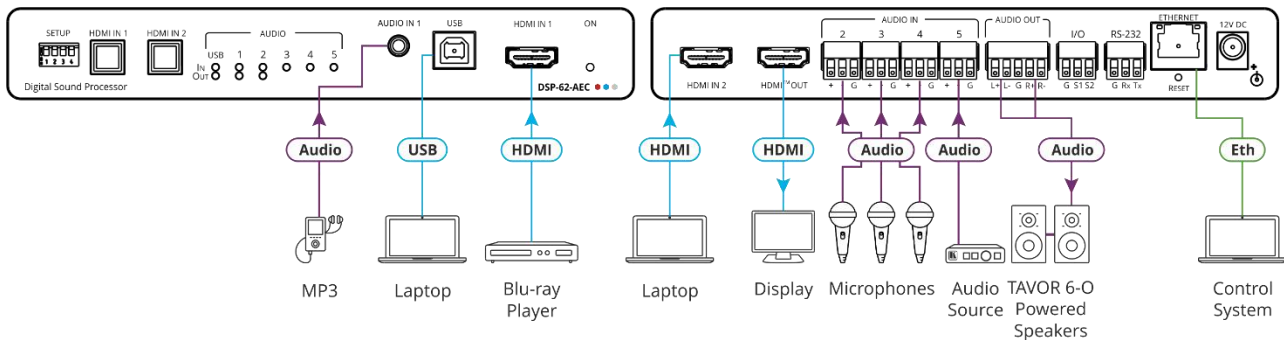

Figure 3: Connecting to the DSP-62-AEC
To connect DSP-62-AEC as illustrated in the example in Figure 3:
1. Connect an unbalanced stereo audio source (for example, an MP3 device) to the AUDIO IN 1 3.5mm mini jack (6).
2. Connect a USB source (for example, a laptop) to the USB Host port (7).
3. Connect an HDMI source (for example, a Blu-ray player) to the HDMI IN 1 connector (8).
4. Connect an HDMI source (for example, a laptop) to the HDMI IN 2 connector (10).
5. Connect up to 4 balanced mono audio sources (for example, microphones) to the AUDIO IN 3-pin terminal block connectors (12).
6. Connect the HDMI OUT connector (11) to an HDMI acceptor (for example, a display).
7. Connect the AUDIO OUT 5-pin terminal block connector (13) to a balanced stereo acceptor (for example, a powered speaker).
8. Connect a control system to the ETHERNET RJ-45 port (11).
9. Connect the 12V DC power adapter to **DSP-62-AEC** and to the mains electricity (not shown in Figure 3).